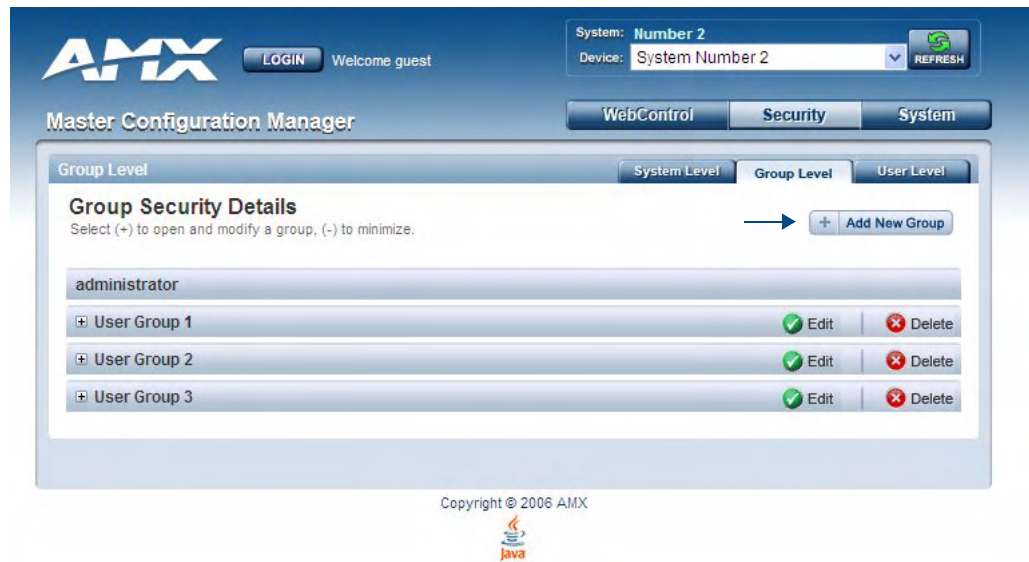
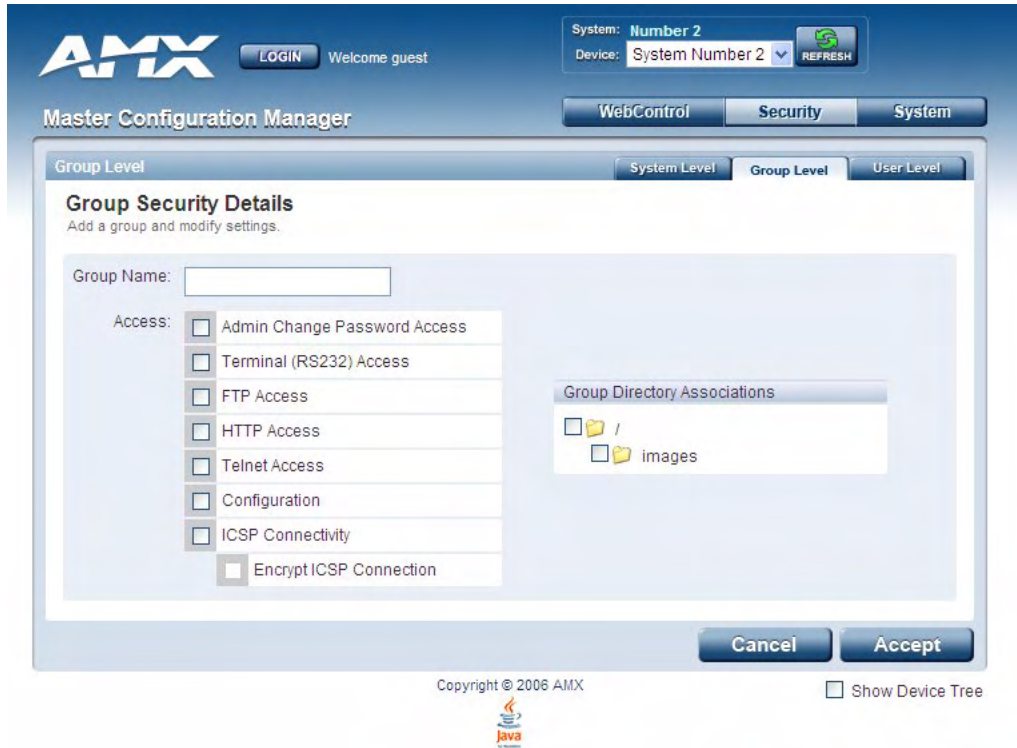

FIG. 20 Group Security Details page
FIG. 21 Group Level Security Settings Page (Add a group and modify settings page)
Select the *Group Level* tab of the Security Page to access the **Group Security Details** page (FIG. 20).
2. Click the **Add New Group** button (see FIG. 20) to access the **Add a group and modify settings** page (FIG. 21).